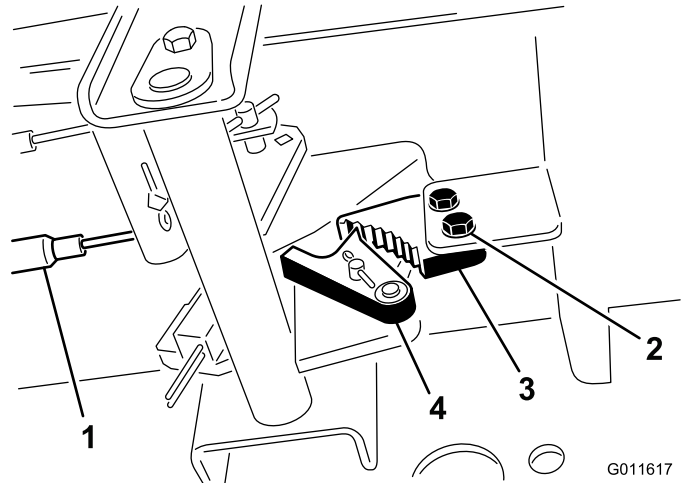

Figure 61
1. Loosen the 2 screws securing the parking brake pawl to the frame (Figure 61).
2. Press the parking brake pedal forward until the brake detent completely engages on the brake pawl (Figure 61).